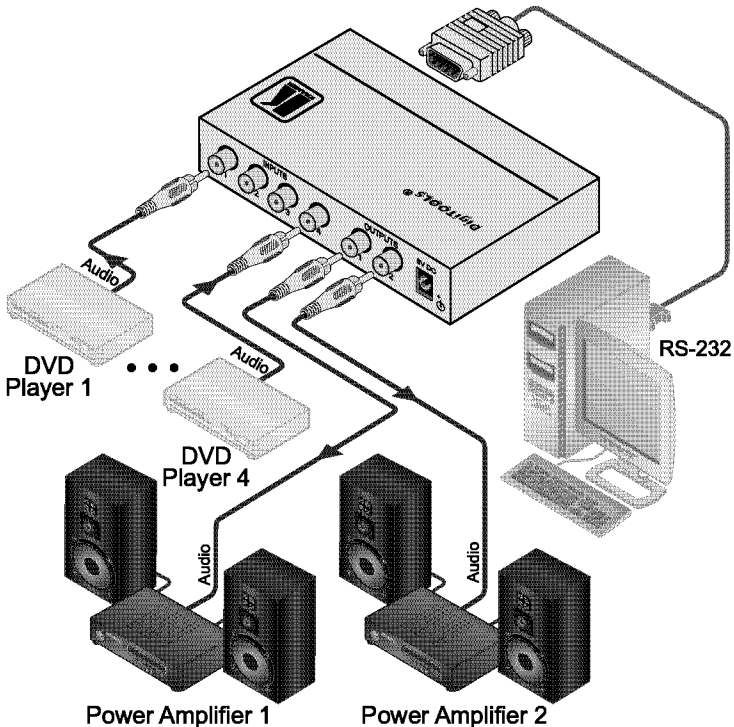

Figure 2: Connecting the 6502 4x1 S/PDIF Switcher / DA
To connect the **6502 4x1 S/PDIF Switcher / DA**, as illustrated in the example in Figure 2, do the following1:
4. Connect the 5V DC power adapter to the power socket and connect the adapter to the mains electricity (not shown in Figure 2).